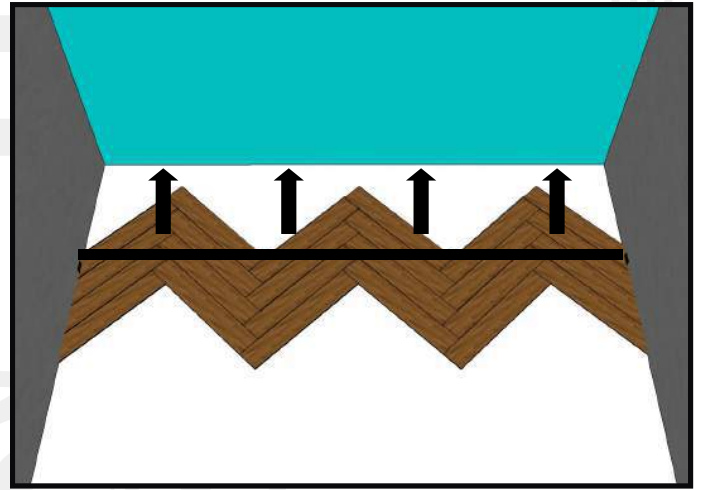

Figure 9
Step 8: Complete 4 rows by repeating steps 5 to 7. Measure, mark, and then cut the first four rows to achieve a cut parallel to the blue wall (**Figure 9**).